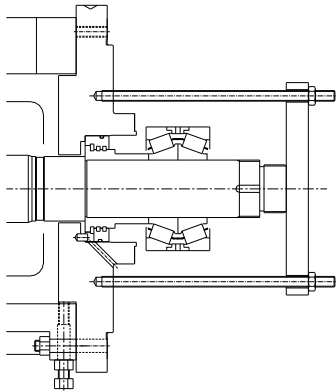

Figure 6.2 - Typical thrust bearing removal
- g) Fit a bearing puller on the inner cover as per Fig.6.2 and pull out thrust bearing assembly together with inner bearing cover with its labyrinth ring and oil shield.